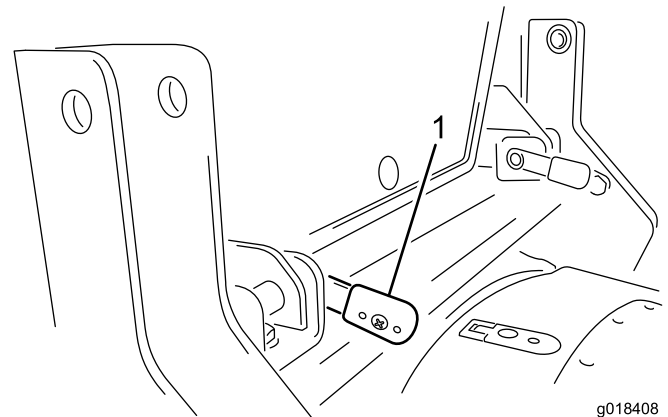

Figure 13
4. When the levers are fully inserted, rotate them backwards to lock them in position (Figure 13).